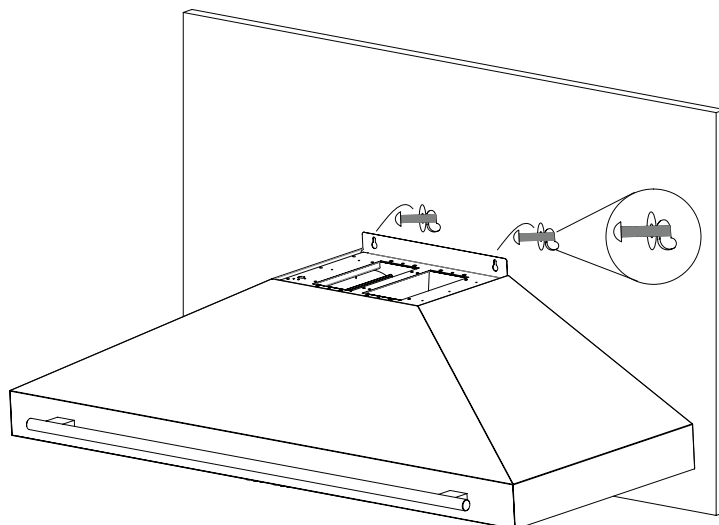

Figure 3.
- Once properly seated, fully tighten the screws to secure the hood — without overtightening. See Figure 3.